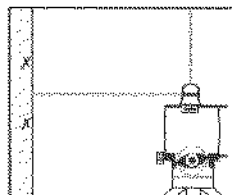
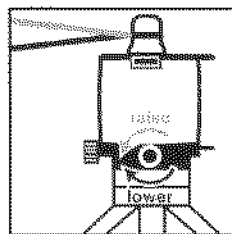

Fig. 9
Fig. 10
- 1: Adjust the side leveling screw until the laser beam rests midway between the two marks (Fig. 9). Clockwise rotation will lower the beam; counterclockwise rotation will raise the beam (Fig. 10). The side vial bubble will shift from center.